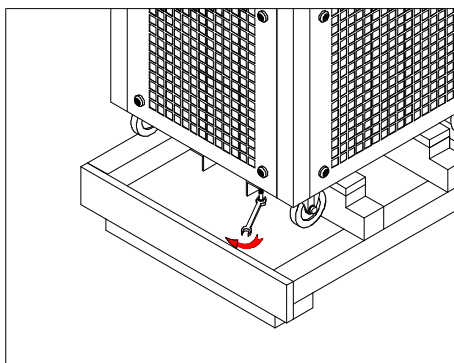

Figure 1-1
- B. Remove 4 nuts holding the machine to the pedestal (Figure 1-1).